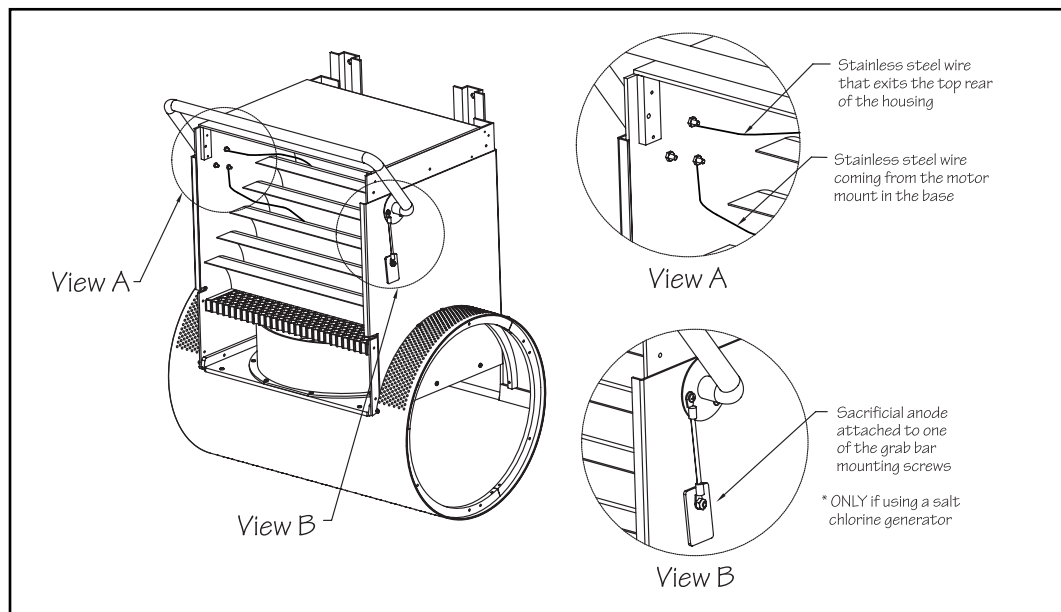

Fig. 6.8
6.10 Install the stainless steel grab bar to the upper housing using the provided stainless steel screws and lock nuts. Feed the stainless steel wire attached to the motor up through the horizontal grill. Then feed the wire up between two of the turning vanes. Place the stainless steel wire (from the motor mount in the base) around the bottom screw on the left side before tightening down on the nut. Place the second stainless steel wire (that exits the top rear of the upper housing) around another screw under one of the grab bar mounting screws (Fig 6.8). **The sacrificial anode should ONLY be used in pools equipped with a salt-chlorine generator for sanitation.**